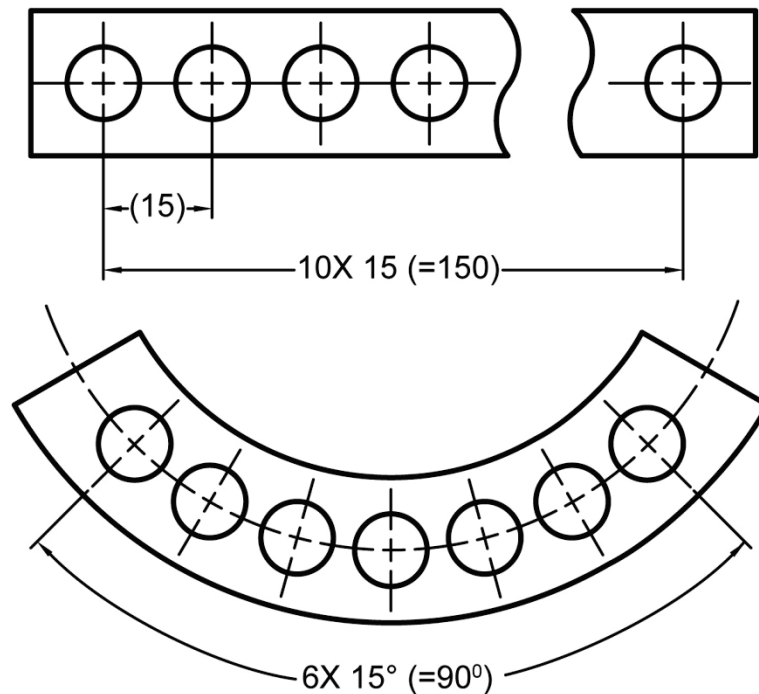

Figure 7.4-5: Equally spaced features
- h) Equally spaced features are specified by giving the number of spaces followed by the repeated feature symbol “X”, a space, and then the dimension value of the space as shown in Figure 7.4-5. The total distance may be given in parentheses after the dimension and one spacing may be dimensioned and given as a reference value.